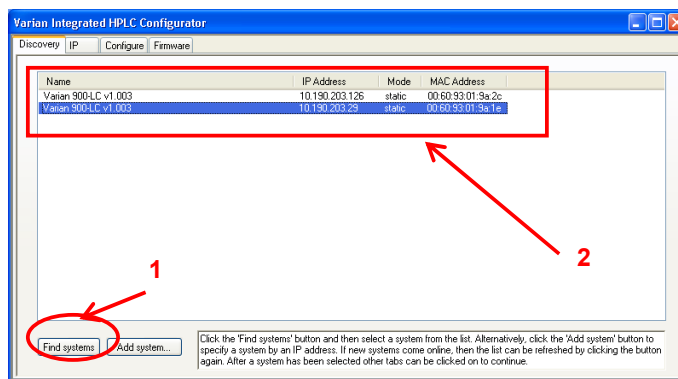

Figure 21: Discovery page of the Service Configurator
2. Once the configurator has opened, click on the *Find systems* button (1) and wait to see which systems appear. Select the system (2) that you want to upgrade (Figure 21).